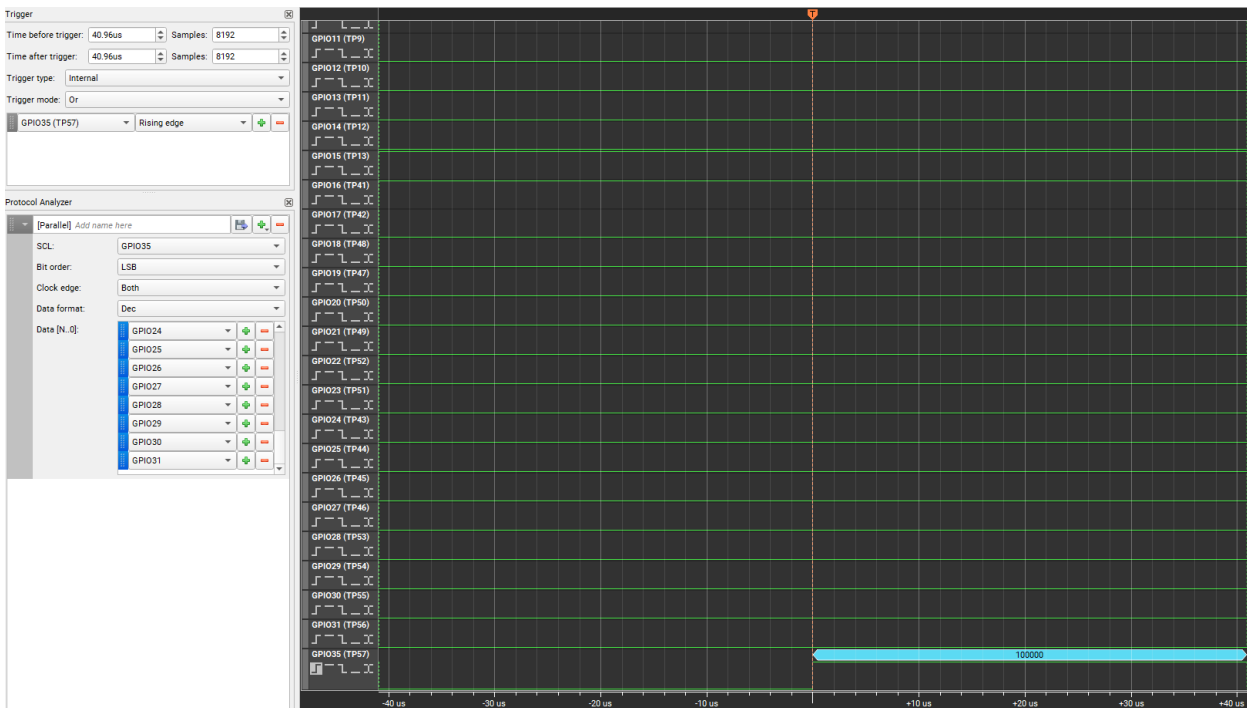
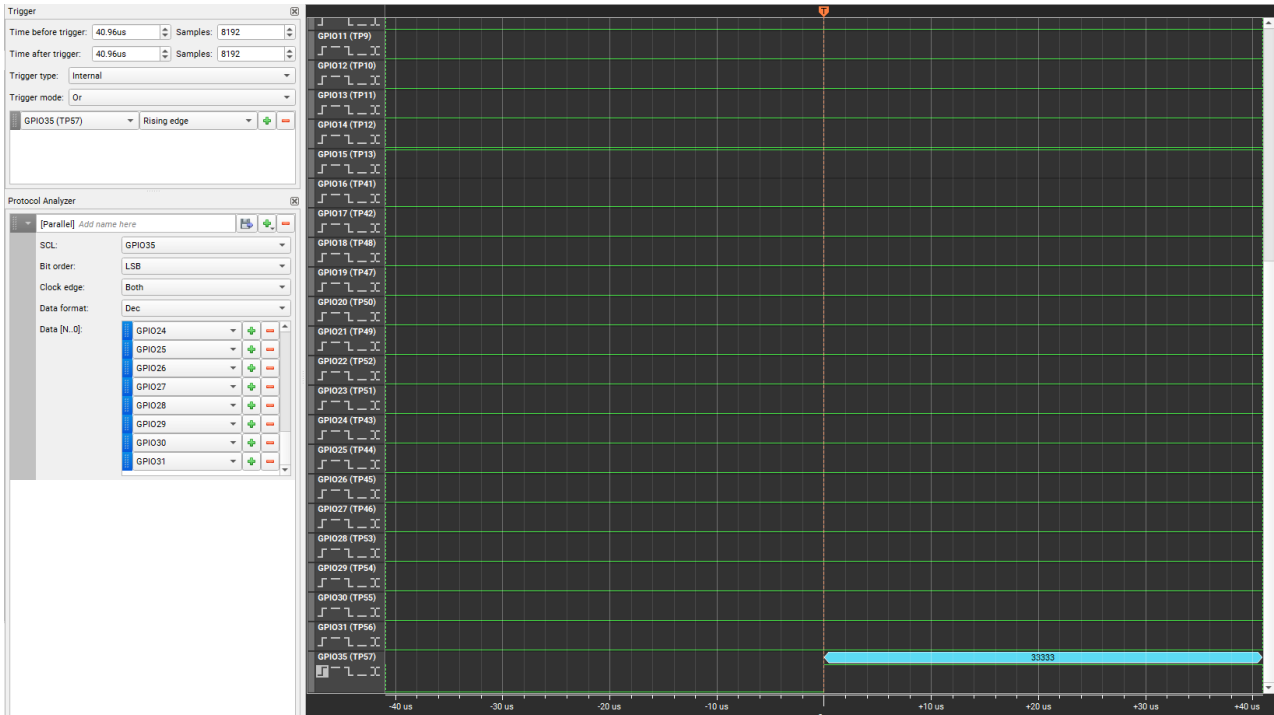
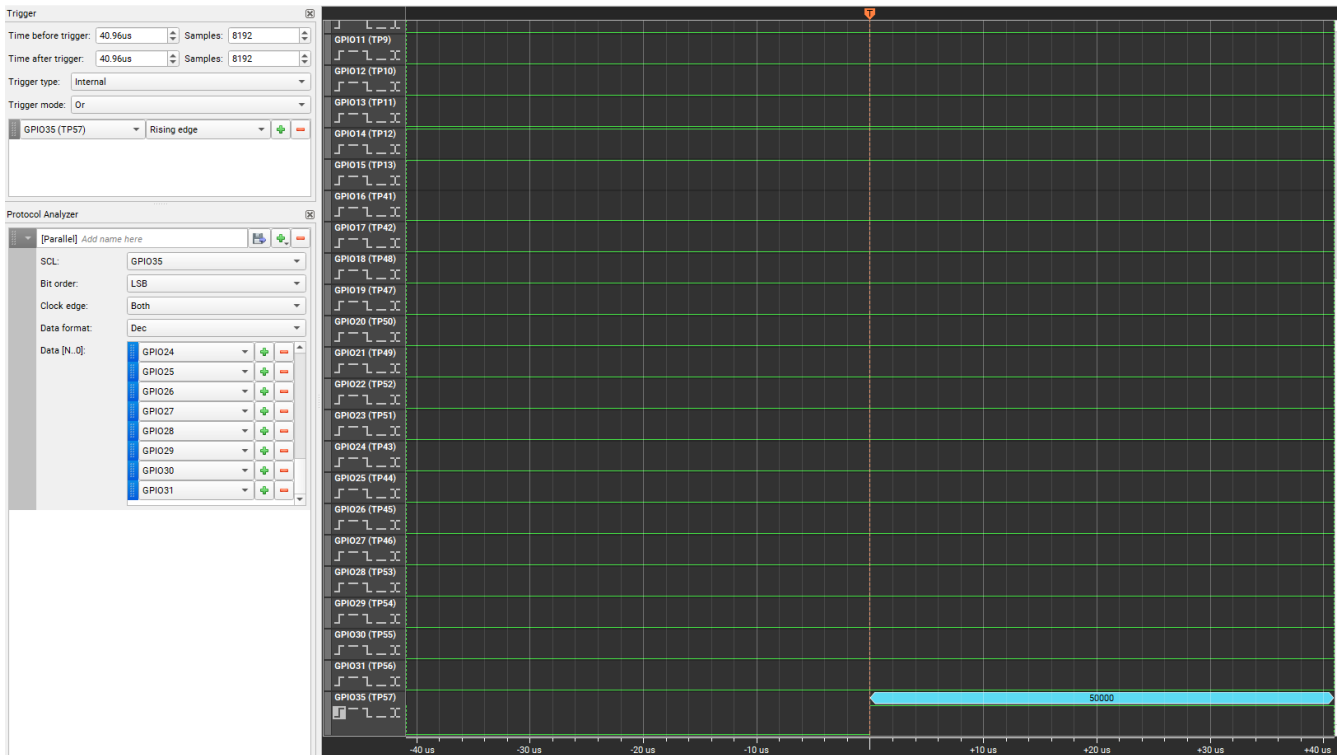

Figure 4. A frequency of 100 MHz is observed on the Logic Analyzer
Figure 5. A frequency of 33 MHz is observed on the Logic Analyzer
Figure 6. A frequency of 50 MHz is observed on the Logic Analyzer
In this design, the `i_pll_div` signal is used to control the `pll1_refdiv` parameter, enabling the generation of different clock frequency via PLL1. The output of PPL1 serves as the input clock to be measured by the frequency meter. Additionally, the output of the frequency meter module, `o_freq`, is connected to `gpio0~gpio19`, allowing the measured frequency to be assessed externally. The `trig` signal can be used as a trigger source for the Logic Analyzer, facilitating the capture and observation of the frequency output (Figure 4, Figure 5, Figure 6)
10. Connect the computer to the ForgeFPGA Deluxe development board, then click "Load from MCU". Wait for the Go Configure Software Hub to download the design to the board. Once the download is complete, open the Logic Analyzer. Assign different values (GND, VCC) to GPIO33 and GPIO34. In the Logic Analyzer, you will observe the clock frequency as measured by the frequency meter (see Figure 4, Figure 5, and Figure 6).